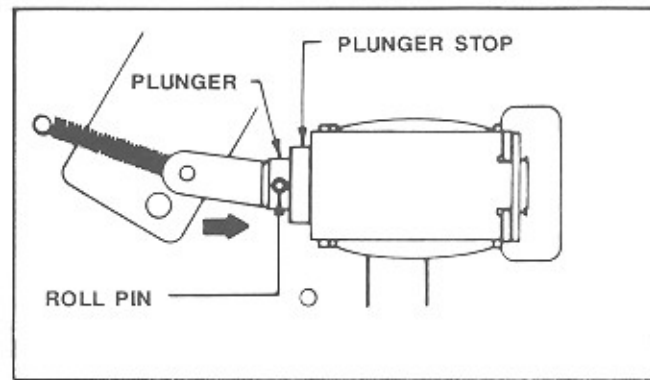

Figure 6-8. Sprag Assembly (Plunger)
1. Refer to figure 6-8. Depress solenoid plunger until the roll pin bottoms on the plunger stop (actuate by pressing on plunger).